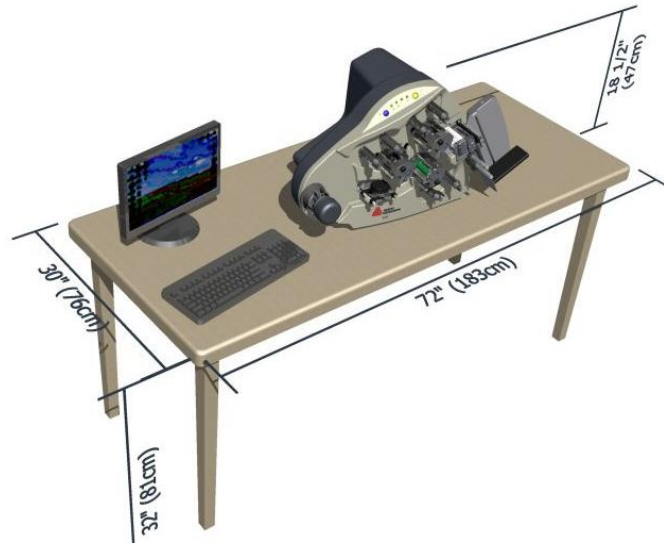

Figure 1: Recommended Workstation Layout
The SNAP 500 printer weighs 55 pounds (25 kg) and requires a table of sufficient quality and strength to handle this load. The printer requires an area of approximately 72" wide x 30" deep x 32" high (1.8 m x 76 cm x 81 cm). The host PC (if used) and any printer options will increase the required area. AVERY DENNISON recommends using an industrial type worktable. Refer to Figure 1 below.
- Physical demands on the operator will dictate proper height of the table supporting the printer. Ensure the operator has comfortable access to the printer. Refer to Figure 1.